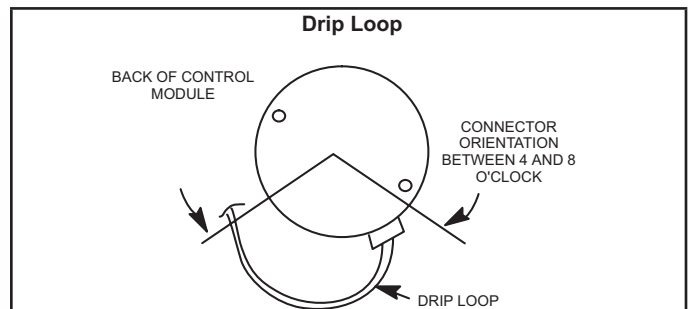

FIGURE 17
- 4 - The electrical connectors of the motor should be facing down to form a drip loop (FIGURE 17). This will direct moisture away from the motor and its electric connections on the motor.